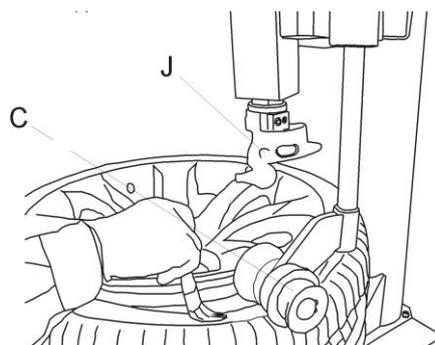

Fig 23
1. Press tyre with right pressing roller C,G to a position 3cm lower than rim edge, lubricate tyre bead, rotate turntable, lift roller C,G. ( Fig 23 )